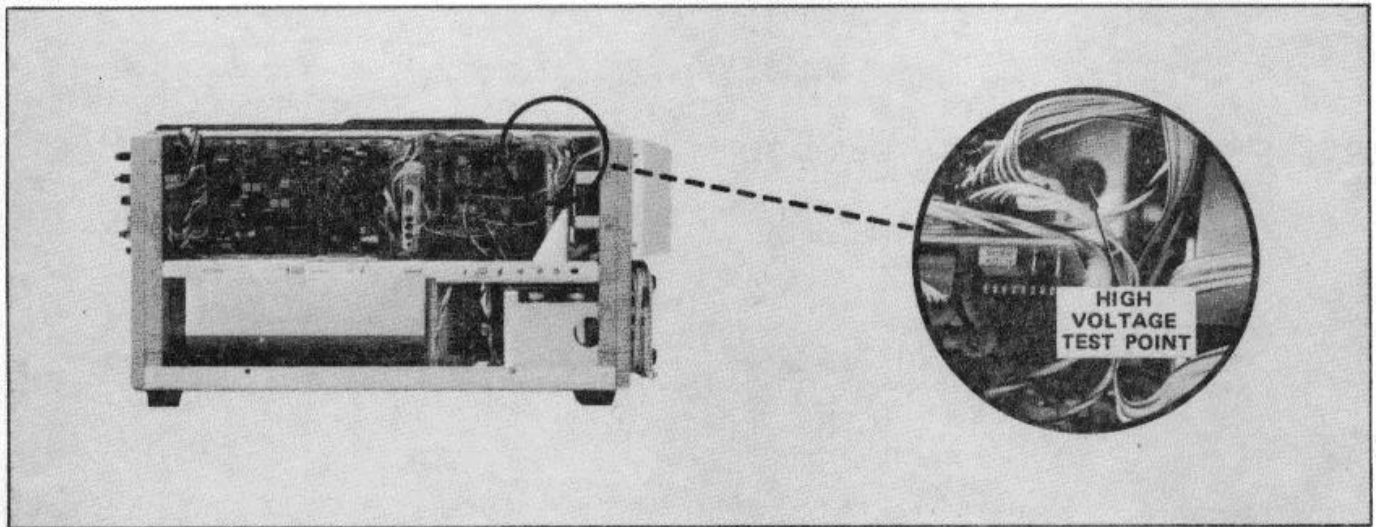

Figure 5-3. Location of High-Voltage Test Point
- b. Set the dc voltmeter (vom) to measure at least -1525 volts and connect it between the high-voltage test point (see Figure 5-3) and chassis ground